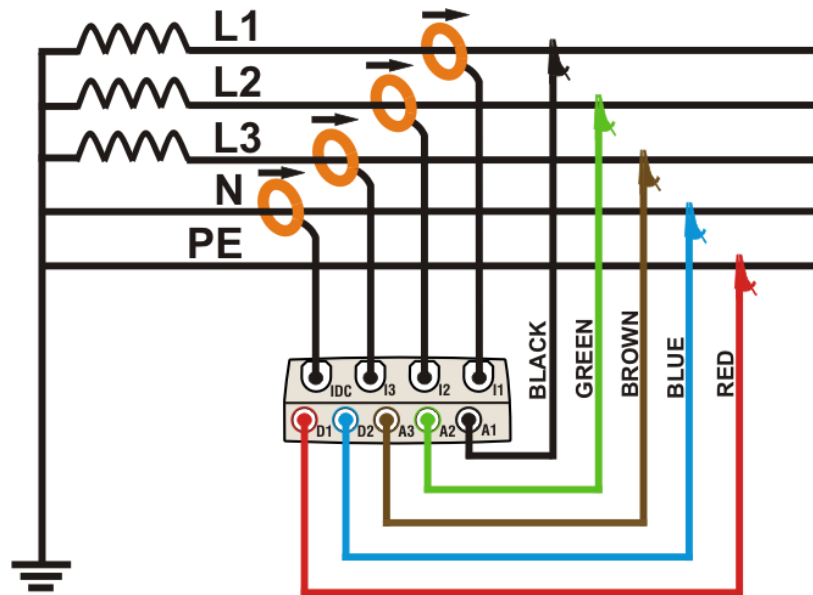

Fig. 166: Meter connection in a three phase 4-wire system
2. Connect voltage test leads on Phases L1, L2, L3, Neutral and Ground cables considering the colours as shown in Fig. 166. **Verify the result “123” at display relative to a correct phase sequence indication** (see § 5.2.4.1) and perform the corrections if necessary.
3. Connect the transducer current clamps on Phase L1, L2, L3 and Neutral N cables as shown in Fig. 166 respecting the clamp’s arrow direction indicating the current standard sequence from generator to load. **On Real Time Values’ section screens always verify the positive value of Active Power and the power factor relative to each load which should be normally inductive** before starting a recording. Reverse the clamp by 180 degrees on cables in case of negative readings.